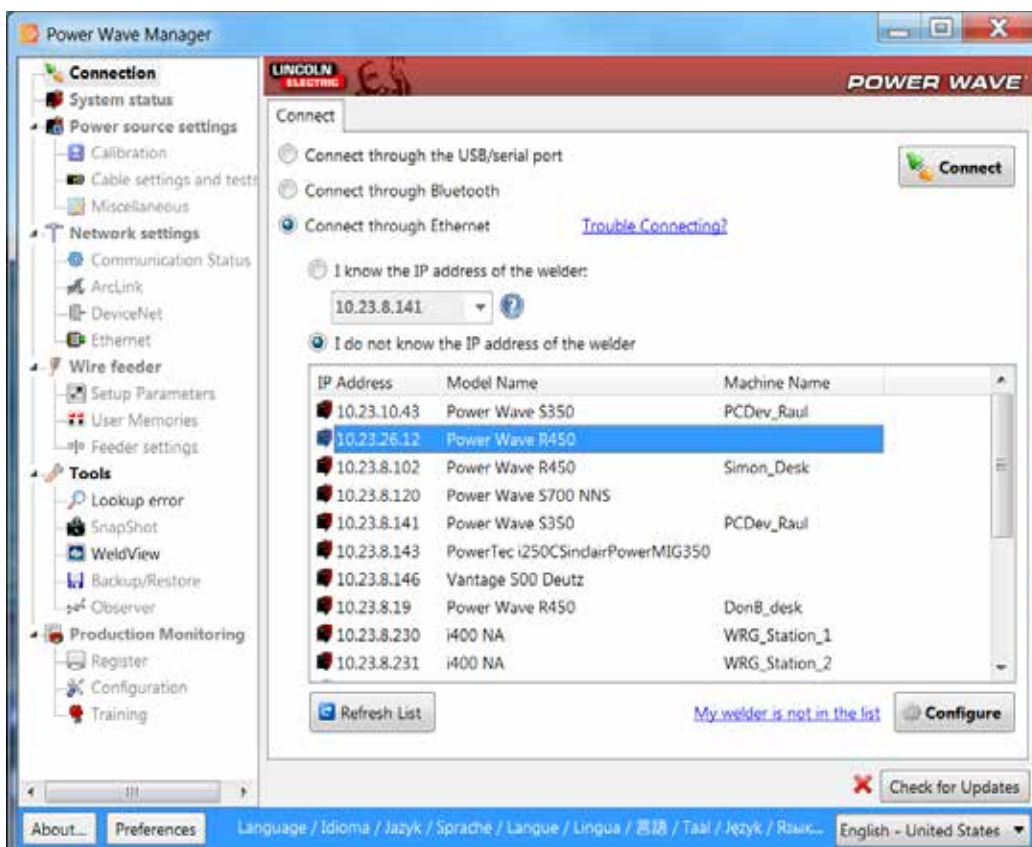

Figure 4.3 Connecting Using an Ethernet Connection
1. Open Power Wave® Manager.	Generally, you can select Start > All Programs > Lincoln Electric > Power Wave® Manager from the computer's main menu. When Power Wave® Manager is opened; it automatically displays the Connect tab for you (Figure 4.3).